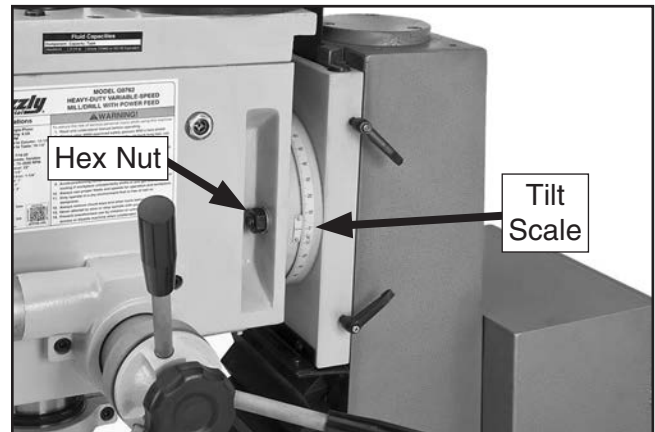

Figure 23. Tilt locking hex nut (one on each side of head).
2. Loosen the three locking hex nuts (see **Figures 23–24**).
3. Using scale shown in **Figure 23** as a guide, swivel headstock and retighten the three hex nuts to secure it.